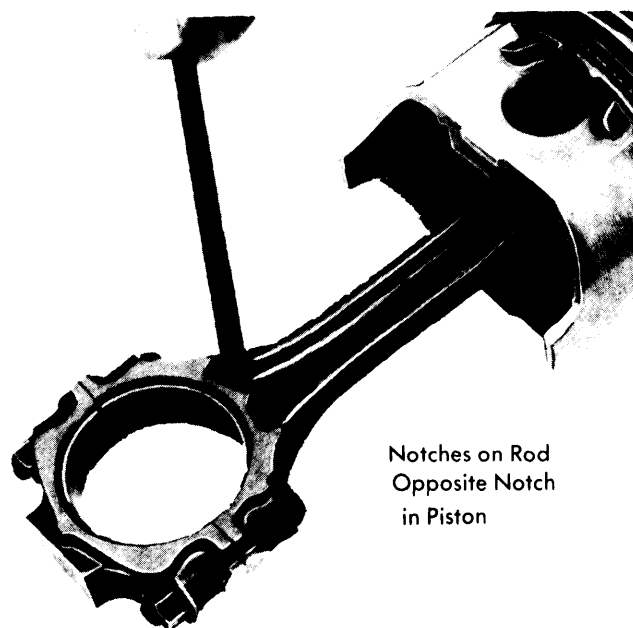

Fig. 4 Making Sure Connecting Rod and Piston Assembly Are Properly Indexed
2) Install ring compressor on piston, ensuring ring gap spacing does not change. Using suitable tool, gently tap piston and rod assembly into correct cylinder bore, taking care to avoid damaging cylinder wall or crankshaft. **NOTE** — Notch in top of piston faces front of engine. Raised notch on side of rod at bearing end should be opposite notch in piston when installed (see Fig. 4).